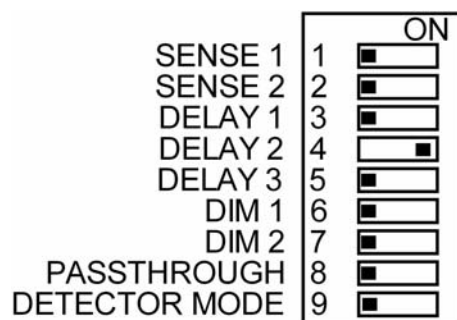

Figure 10. DIP Switch Settings - Occupancy Mode with Passthrough Disabled Testing
1. Set DIP Switch S1 to enable Occupancy mode and disable Pass Through. See Figure 10.